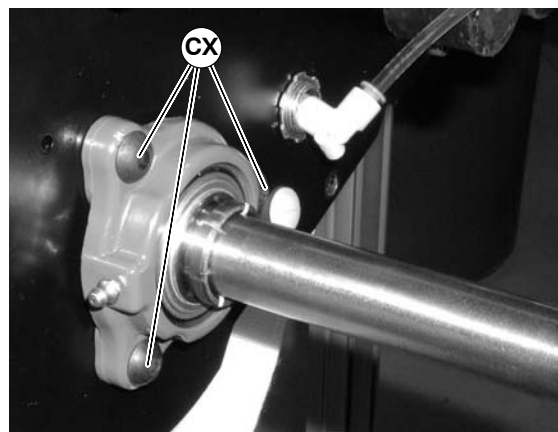

Figure 88
6. Tighten three (3) mounting screws (CX of Figure 88) to 200 in-lbs (22.5 N-m).